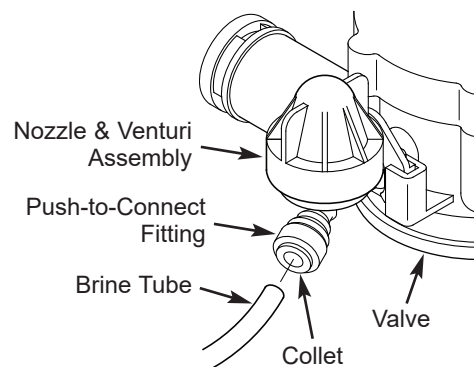
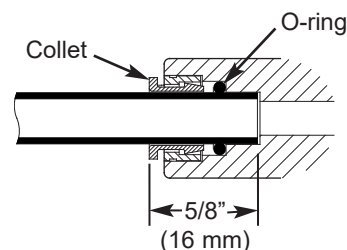

FIG. 15
FIG. 17
- c. Connect brine tube by inserting end into push-to-connect fitting on the valve's nozzle & venturi assembly (See Fig. 15). Push it until at least 5/8" (16 mm) of tube is inserted (See Fig. 17).